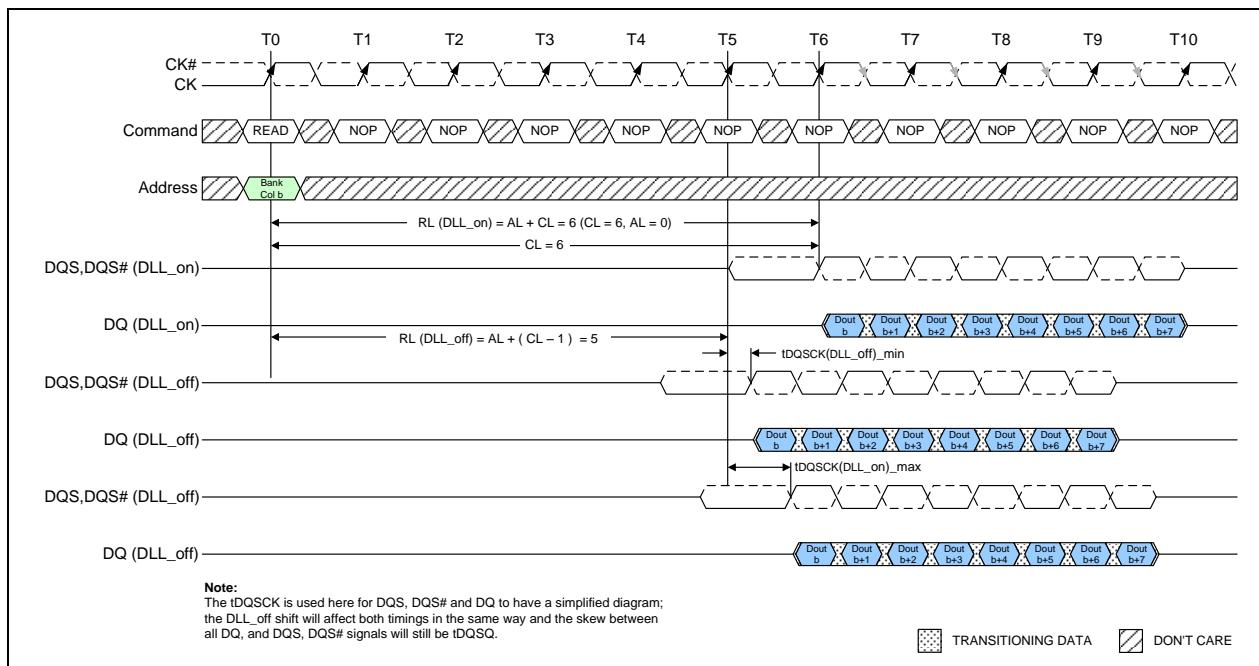

Figure 9 – DLL-off mode READ Timing Operation
- If the Rtt_Nom feature was enabled in the mode register prior to entering Precharge power down mode, the ODT signal must continuously be registered LOW ensuring RTT is in an off state, as shown in Figure 9. If the Rtt_Nom feature was disabled in the mode register prior to entering Precharge power down mode, RTT will remain in the off state. The ODT signal can be registered either LOW or HIGH in this case.